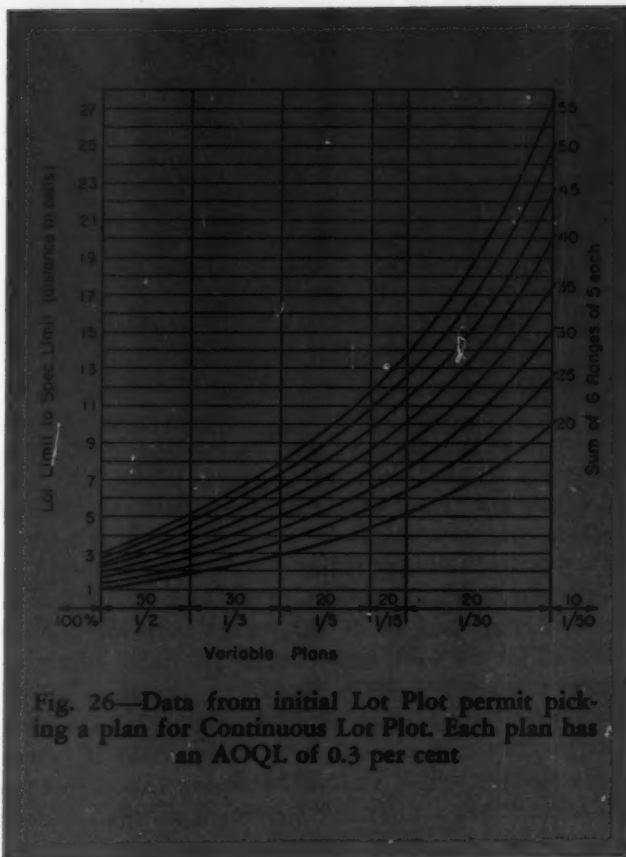

Fig. 26—Data from initial Lot Plot permit picking a plan for Continuous Lot Plot. Each plan has an AOQL of 0.3 per cent
12. Pick out the lot limit that is closest to a specification limit and determine the number of cells from it to that specification limit. Enter with this value in the left-hand scale of Fig. 26. Read over